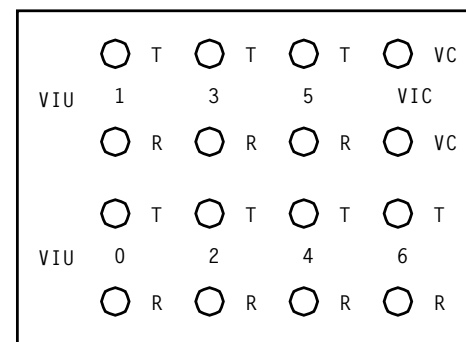

FIG. 2 – VIU Port Locations
[3] At VIF, connect T and R coaxial cables (2) at added VIU output ports per FIG. 2